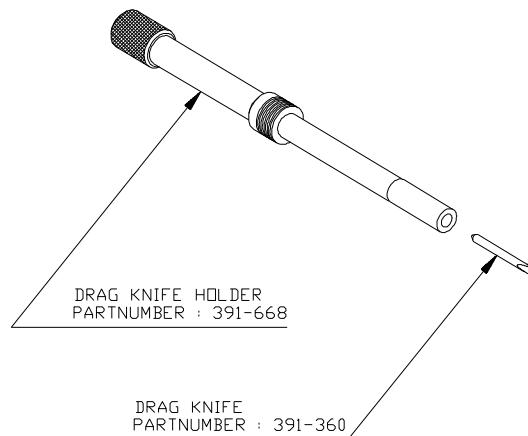

FIGURE 1-11 :
2. Insert the drag blade into the drag knife holder as shown in Figure 1-11.